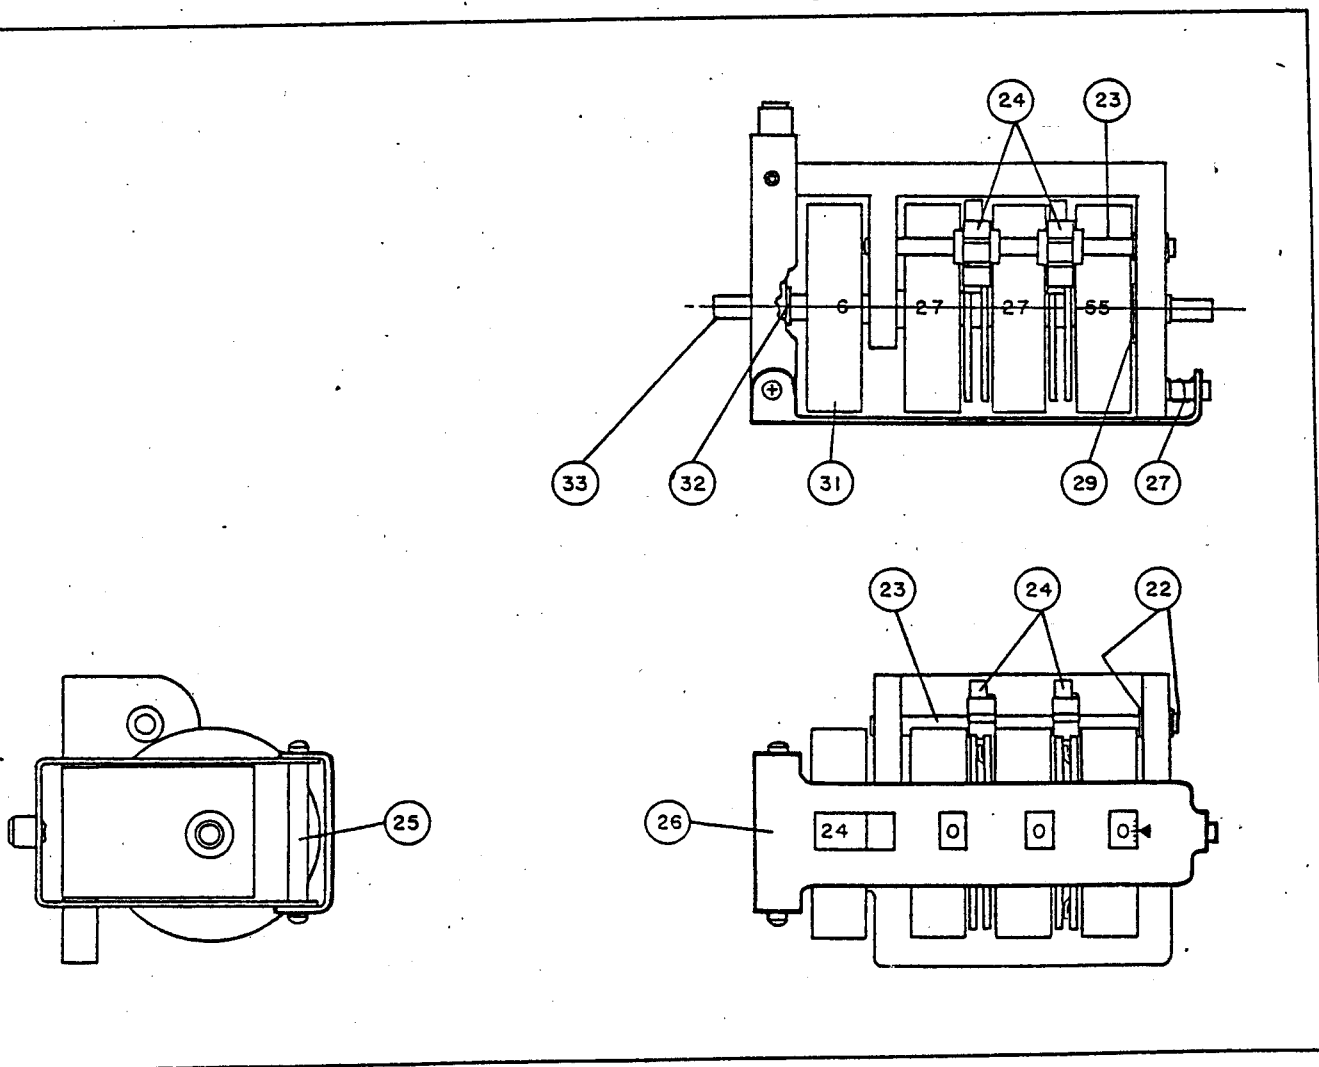

Figure 3-10. MEGACYCLES Frequency Indicator; Top, Front, and Side Views
3-14. DISASSEMBLY OF MEGACYCLES FREQUENCY INDICATOR. Refer to figures 3-10 and 3-11.
3-16. REASSEMBLY OF MEGACYCLES FREQUENCY INDICATOR. Refer to figures 3-10, 3-11, and 3-12.
- l. Install the three right-hand counter wheels and associated hardware and slide shaft (item 30) into position.
- m. Install retaining ring (item 29) on shaft (item 30) and orient setscrews of right-hand counter wheel (item 28) with the flat edges of shaft (item 30).
- n. Adjust position of right-hand counter wheel (item 28) for minimum end play of shaft (item 30) and tighten setscrews. The two middle counter wheels should now rotate freely and shaft (item 30) should rotate freely in the end bearings.
- o. Install sliding mask (item 26) and spring (item 27) with pin (item 25). Install screws and washers of pin (item 25). Sliding mask (item 26) should slide horizontally without seizing or binding after installation.
- p. With the three right-hand counter wheels set for a reading of 00-00-00 from the front and 27-27-55 from the top, install counter gears (item 24) and shaft (item 23) as illustrated in figures 3-10 and 3-11.
- q. Secure shaft (item 24) with retaining rings (item 22) as illustrated in figure 3-10. Make certain the